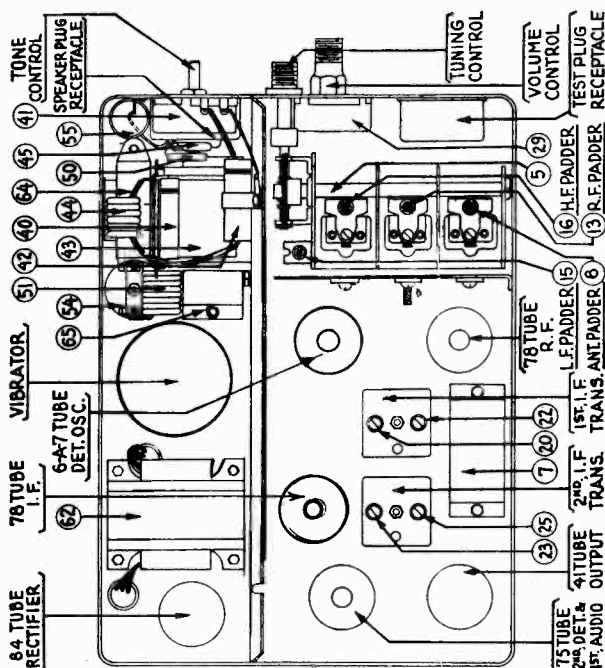

FIGURE 2 — FT9 Top View
Both the primary and the secondary padders are placed side by side in the top of the transformer shield can. The adjusting screws are accessible thru the holes in the top of the shield. (See Fig. 2).
Adjust the secondary screw padder (25) on the second I. F. transformer for maximum reading on the output meter. Then adjust the primary screw padder (23) for maximum reading. (See Fig. 2 for location of padders).
Connect the generator lead to the grid cap of the 6A7 tube in series with a .1 mfd. condenser. Adjust the secondary screw padder (2) on the first I. F. transformer for maximum reading on the output meter. Then adjust the primary screw padder (20) for maximum reading. (See Figure 2 for location of padders).